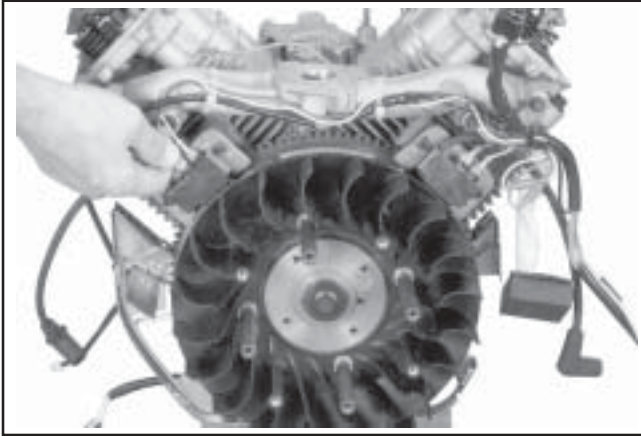

Figure 9-46. Disconnecting Leads from Ignition Modules.
1. Disconnect the lead(s)* from each ignition module. See Figure 9-46. *Modules for non-SMART-SPARK™ ignition systems have only one kill lead.